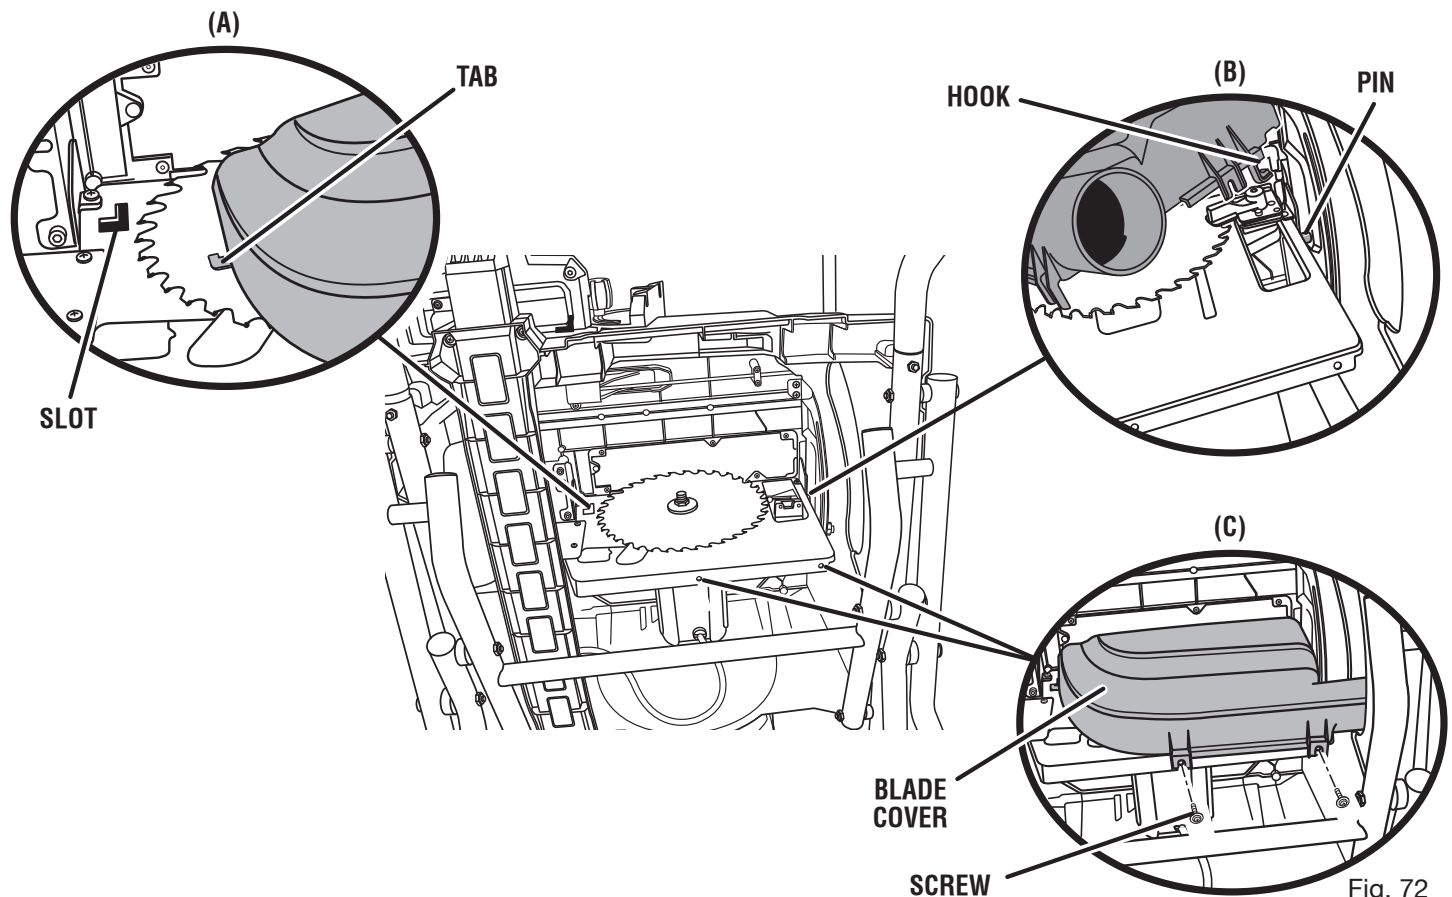

Fig. 72
- Loosen screws. Lift and remove the blade cover. Clean saw dust and wood chips from the blade cover. Close and secure. (See figure 72.)